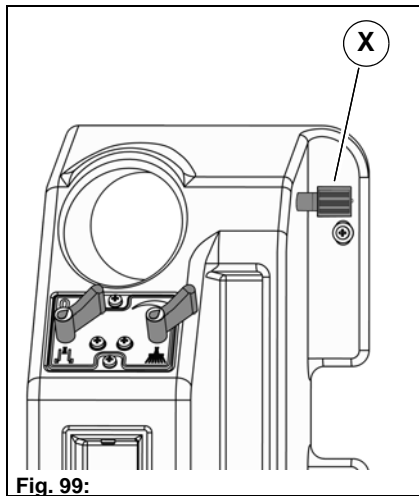

Fig. 99:
2. Raise the front tool carrier and fix it in the upper position with the lowering valve Fig. 99-X.
7. Open the lowering valve Fig. 99-X again.